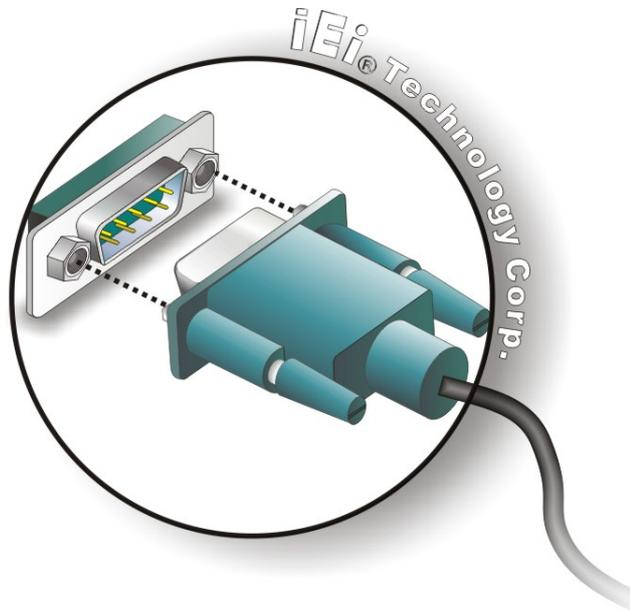

Figure 3-23: RS-422/485 Serial Device Connector
Step 2: **Insert the serial connector.** Insert the DB-9 connector of a serial device into the DB-9 connector on the external peripheral interface. See Figure 3-23.